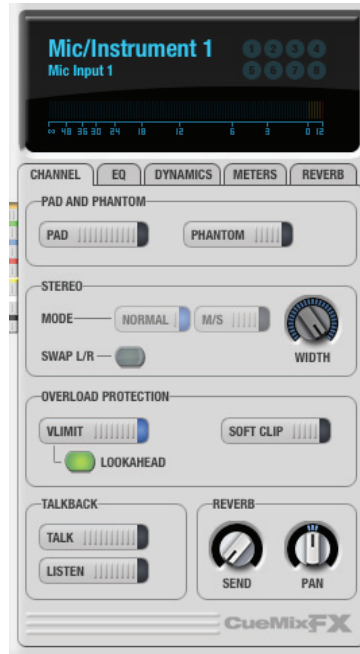
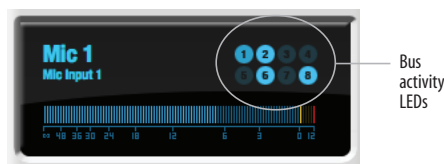

Figure 10-8: The Channel tab.
Figure 10-9: Input meter and bus activity LEDs.
The Channel tab (Figure 10-8) displays settings for input channels. Click any focus button in the Inputs tab to view the Channel tab settings for the channel.
Inputs that have been grouped as stereo pairs in the Inputs tab (Figure 10-3) provide two stereo modes (Figure 10-8): *Normal* and *M/S*. *M/S* mode provides decoding for a mid-side microphone configuration.
The *Width* knob (Figure 10-8) provides control over the stereo imaging, going from a full stereo image to mono (both channels panned equally). See “Width” on page 78.
The *Swap L/R* button (Figure 10-8) lets you switch the left and right channels.
The Overload Protection section (Figure 10-8) provides two features that help prevent digital clipping on the two front-panel mic/guitar inputs. These options are only available on these two preamp-equipped inputs.
*V-Limit™* (Figure 10-8) is a hardware limiter that helps prevent digital clipping from overloaded input signals. With *V-Limit* engaged, signals can go above zero dB (with limiting applied) to as high as +12 dB above zero with no distortion due to digital clipping. Click the *Lookahead* option for even better protection against sharp transients.
Additional or alternative protection can be applied to the mic/guitar inputs by enabling *Soft Clip* (Figure 10-8). When enabled, *Soft Clip* engages just before clipping occurs and helps further reduce perceptible distortion.
Click the *Talkback* or *Listenback* button (Figure 10-8) to toggle whether the input is the Talkback or Listenback input. Only one input can be the talkback input, and only one input can be the listenback input. See “Talkback and listenback” on page 97.
The *Send* in the reverb section (Figure 10-8) is the same control as the reverb send in the Input tab channel strip (Figure 10-3). See “Reverb send” on page 81. If the input is currently not grouped as a stereo pair in the Input tab (it is operating as a mono input), use the reverb *Pan* knob (Figure 10-8) to pan the mono signal for the stereo reverb processor.
When the Channel tab is active (Figure 10-8), the display above the tab provides a horizontal level meter and eight *bus activity LEDs* (Figure 10-9).
The *input level meter* (Figure 10-9) is the same as the input meters in the Meters tab (Figure 10-22 on page 94) with the *Pre FX* button engaged, which shows the input level on the physical input itself, before any processing of any kind occurs within the 828mk3. This meter gives you the most accurate reading of the actual signal level hitting the input, regardless of any other settings (such as *V-Limit*, *Soft Clip* and so on). The clip indicator, however, happens after *V-Limit* and/or *Soft Clip*. This allows you to see when clipping occurs, even with these overload protection features engaged.
The *Bus Activity LEDs* (Figure 10-9) show you which mix busses the input signal is being fed to. For example, LED #6 will glow under the following conditions: the input is unmuted in mix bus 6, its fader is up, and there is signal activity from the input going into the mix bus.